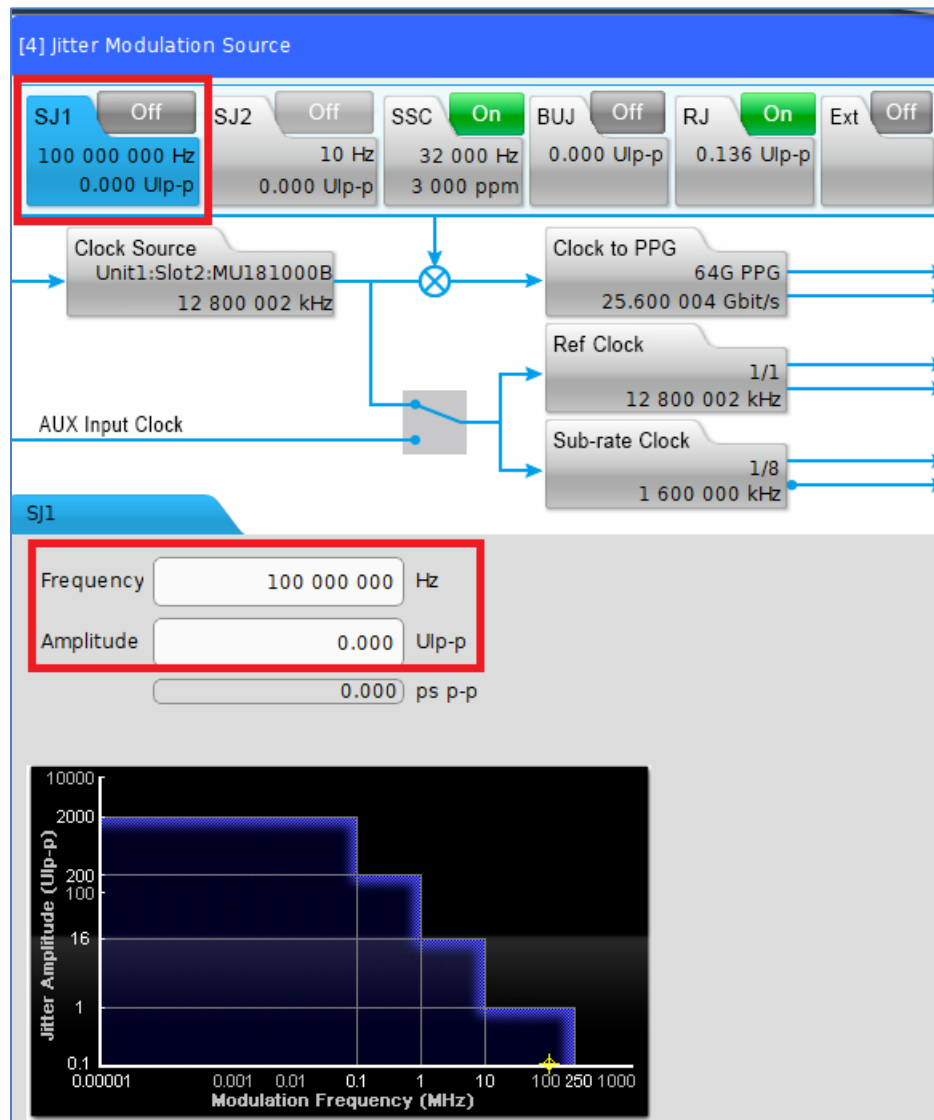

FIGURE 67. SJ1 SETTING
- xvi. Set SJ1 frequency to 100 MHz and amplitude to 0 U1pp. Turn off SJ1 output. See Figure 67.